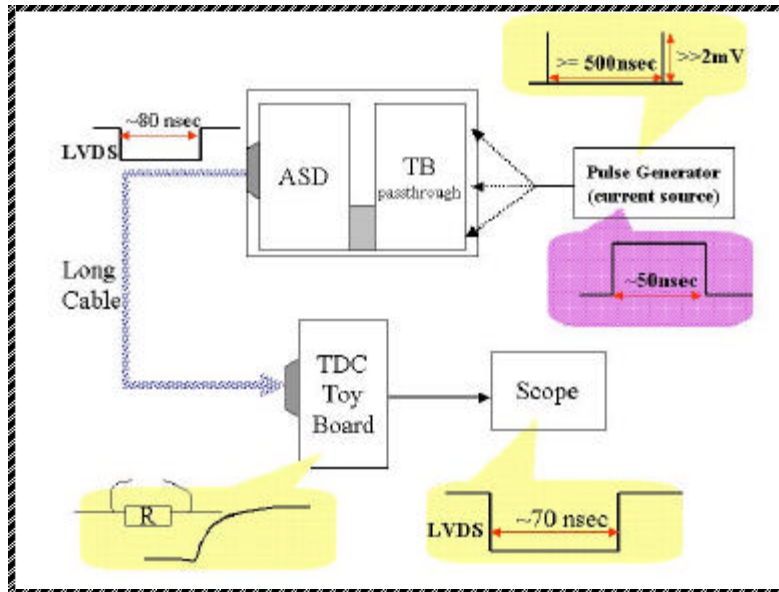

Figure 5
**Setup:** Look at Figure 5. One has to trigger ASD into producing a signal and look at the shape of the signal on the other end of the cable. It is sufficient to test the width of the signal as it comes out of the Toy TDC Board3.
1. Start by selecting a working ASD Transition Board (TB), and working ASD; put them into the VME crate.
2. Use the pulse generator to produce pulses with characteristics shown on the Figure 5. The pulse must be well above the ASD threshold, the width of the pulse above the threshold must be approximately as wide as the real PMT signal, and the frequency of the pulses must be low enough to allow the cable to discharge between the impulses.